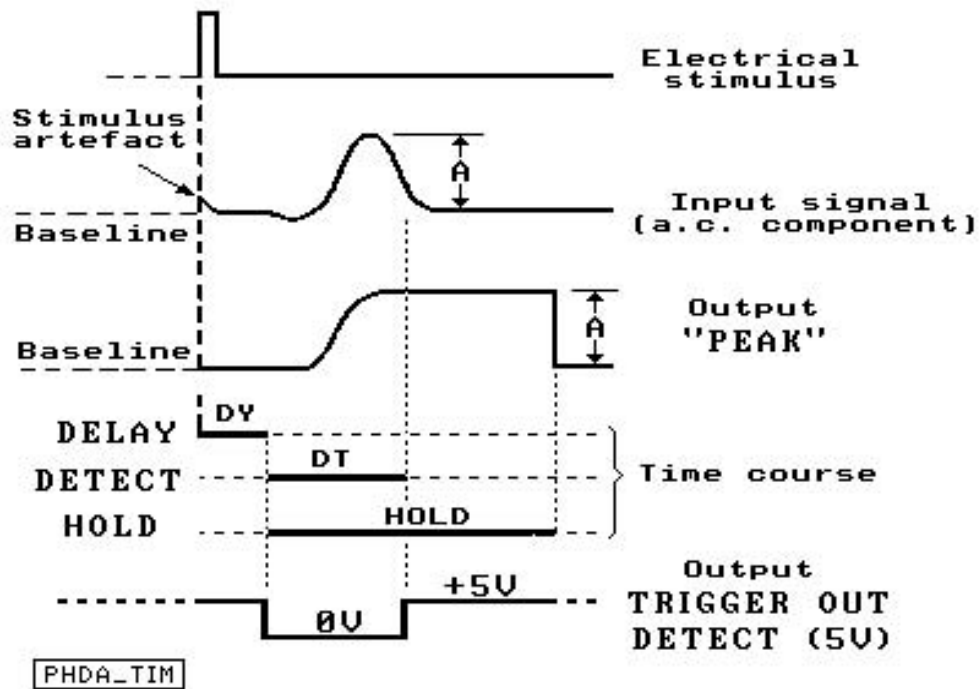

Fig. 4: Time course during capture of the peak amplitudes. Note: negative signals are not recorded.
- 12 Adjust the delay time "DELAY" (DY) so that the stimulation artefact or other fast interference signals are suppressed (see Fig. 4). During this adjustment monitor the two traces on the oscilloscope.
- 13 Now increase the detection time "DETECT" (DT) until the desired peak value of the signal curve is captured by the peak value buffer (see Fig. 4). The lower oscillograph beam (Y2) indicates the acceptance window of the peak height detector.
- 15 Next increase the hold time on the PHDA with the "HOLD" control until the recorder shows maximum deflections (see Fig. 4).
- 16 For estimating the measured peak-amplitude in a simple way, set the digital voltmeter [OUTPUT DC (V)] to 1.00 V, using the "OFFSET" control.